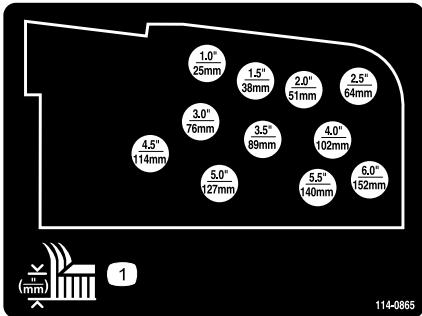

Figure 25
6. Mount the height-of-cut chains to the desired height-of-cut hole (Figure 25) with the clevis pin and hairpin cotter.